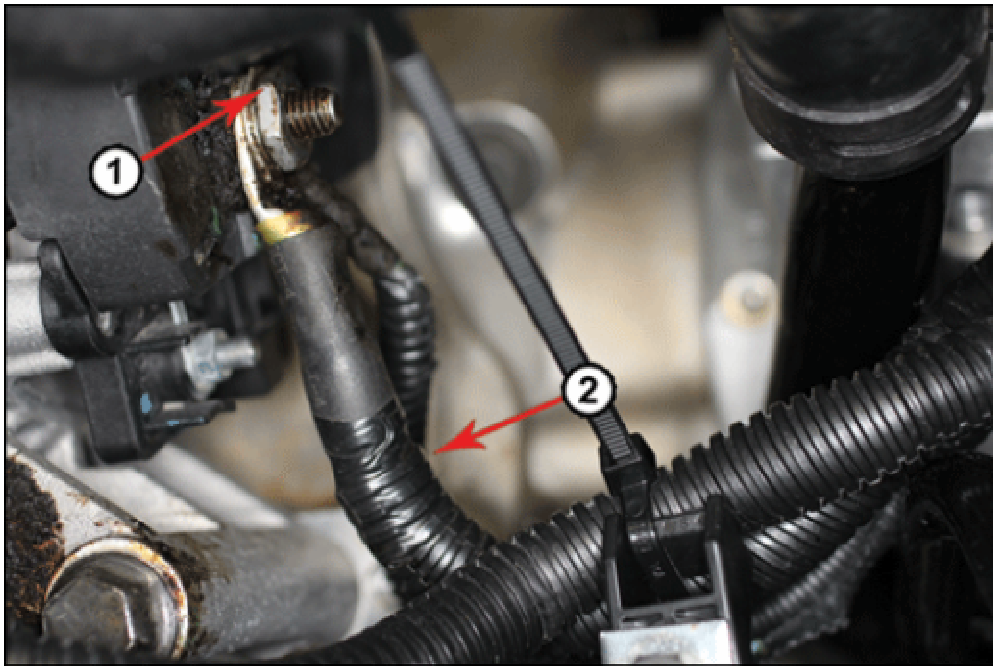

Figure 15
15. Reinstall the power cable of the alternator harness to the positive terminal of the alternator. Tighten nut to 120 in-lb (13.5 N·m). Apply sealant to the nut after installation (Figure 15).